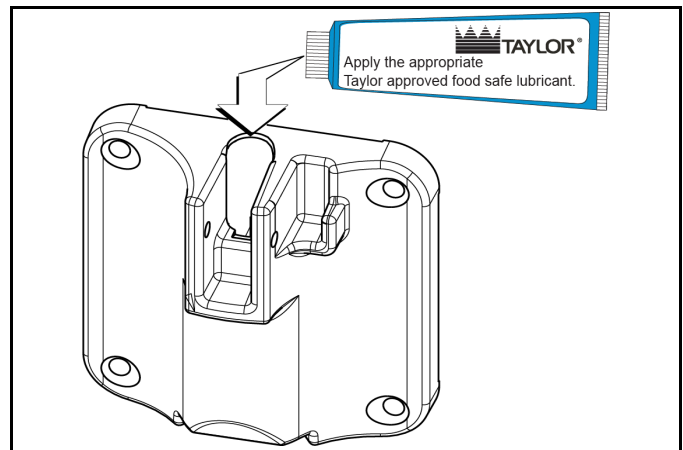

Figure 6-7
8. Lightly lubricate inside the top of the freezer door valve cavity. (See Figure 6-7.)